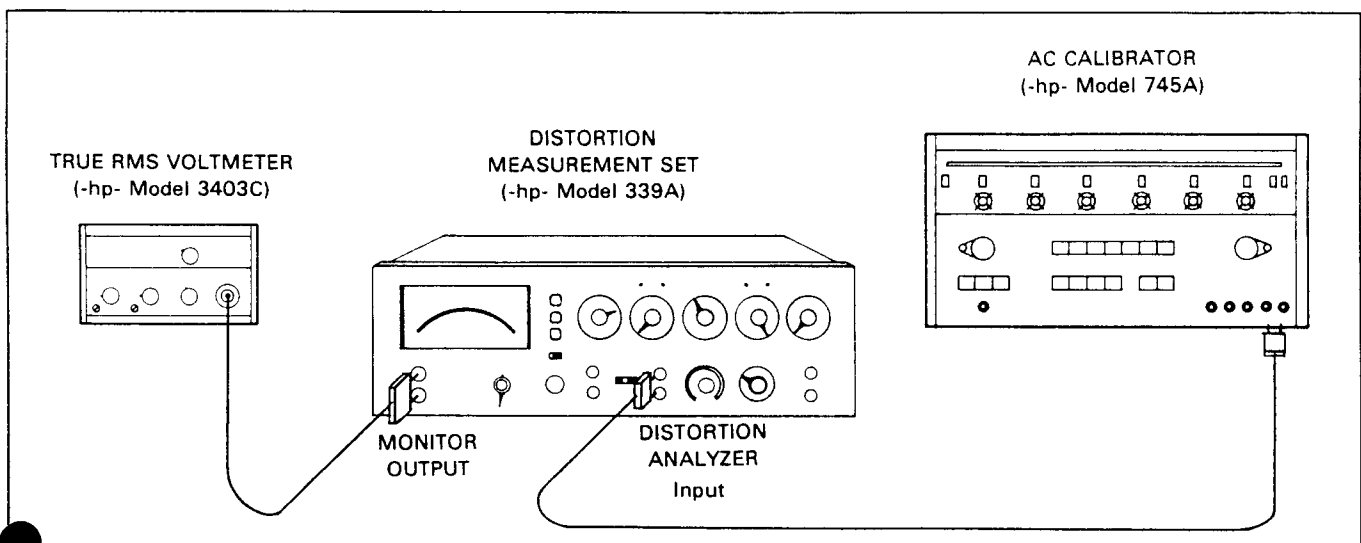

Figure 4-2. Meter Tracking and Monitor Output Accuracy Test.
d. Connect the equipment as shown in Figure 4-2.
- d. Connect the equipment as shown in Figure 4-2.